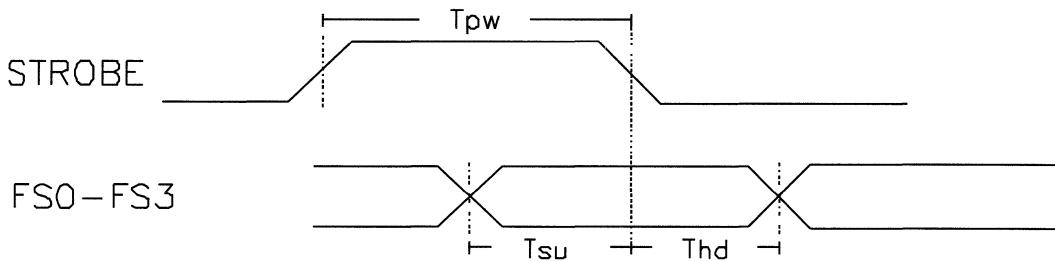

Figure 3
FS0 (18), FS1 (19), FS2 (20), FS3 (1), and FS4 (4), are the TTL compatible frequency select inputs for the binary code corresponding to the frequency desired. STROBE (2), when high, allows new data into the frequency select latches; and when low, prevents address changes per Figure 3. The internal power-on-clear signal will force an initial frequency code corresponding to an all zeros input state. VERTBLANK (10), when low, inhibits the transfer of new frequency select information. Enabling this pin during the vertical blanking interval causes the change in frequency to happen at this time and prevents any visible glitch when a new frequency is selected. If this feature is not required, this pin may be left open.